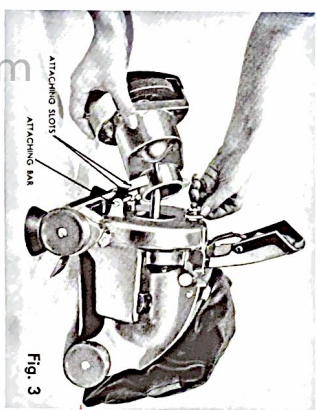

Fig. 3
**STEP 3:** Raise the Floodlight Hood. Hold the Handi-Butler so the Attaching Slot is on the Attaching Bar which is just below the Belt Drive Shaft. (Figure 3) The Belt Drive Shaft should enter the large round opening and pass through the loop formed by the belt.
**STEP 5:** Turn the Belt Lifter lever to the "ON" position and the unit is ready for operation. Rubber suction cups which are provided may be placed under the front wheels to steady the unit (figure 3).